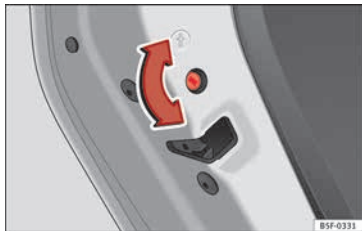

Fig. 134 Childproof lock on the left hand side door.
- With the door open, rotate the groove in the door using the ignition key, clockwise for the left hand side doors » **Fig. 134** and anti-clockwise for the right hand side doors.
- With the door open, rotate the groove in the door using the ignition key, anti-clockwise for the left hand side doors » **Fig. 134** and clockwise for the right hand side doors.